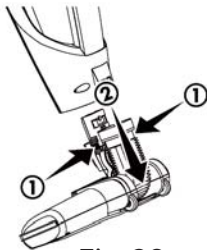

Fig.28
- To clean out the hose, press the hose release tabs, as illustrated, and pull the motorised brush head away from the main body (Fig.28).